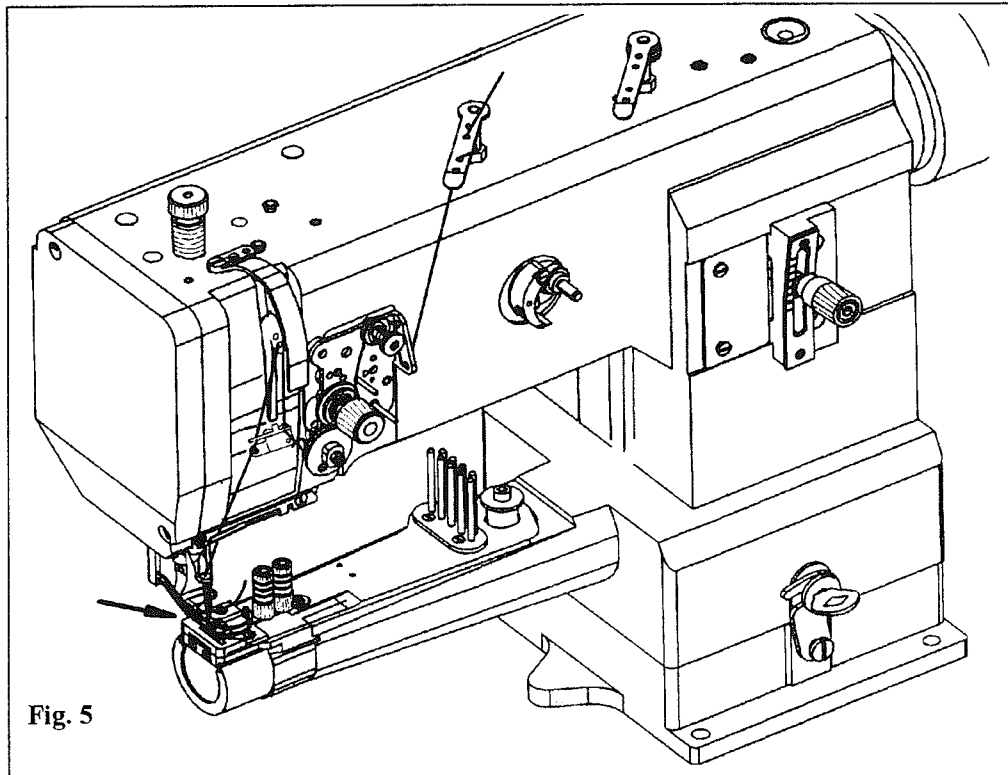

Fig. 5
4) ROUTING THE UPPER THREAD (Fig.5)
Route the machine according to fig 5. The needle should be routed from the left (see arrow).